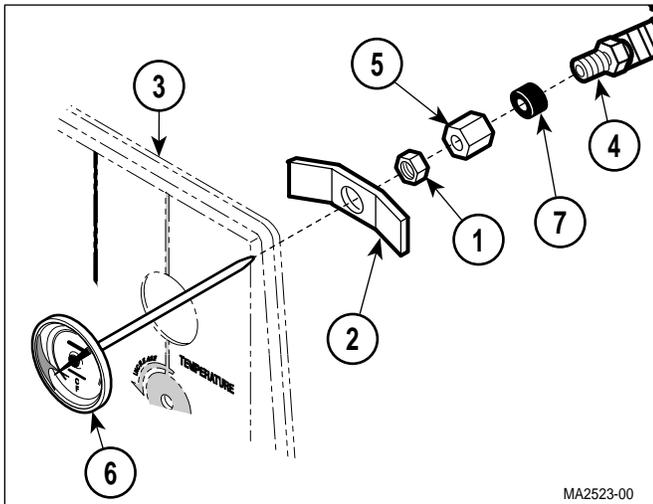

Figure 4-13. Temperature Gauge Removal / Installation
- (1) Remove cover assembly (Refer to para 4.2).
- (2) Loosen nut (1, Figure 4-13) and slide retaining bar (2) away from front panel (3).